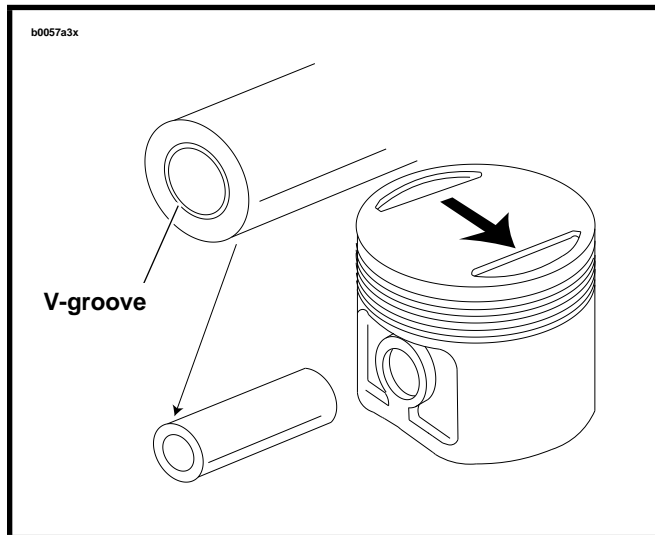

Figure 3-28. Piston Pin and Piston Identification
Since the piston pin is a loose fit in the piston, the pin will easily slide out. The pins have tapered ends to help seat the round retaining rings. See Figure 3-28. 1200cc piston pins are stamped with a V-groove at one end.
9. Mark each pin boss with either an “F” or an “R” to indicate front or rear cylinder, respectively. See Figure 3-28. The arrow at the top of 1200cc pistons must always point toward the front of the engine.